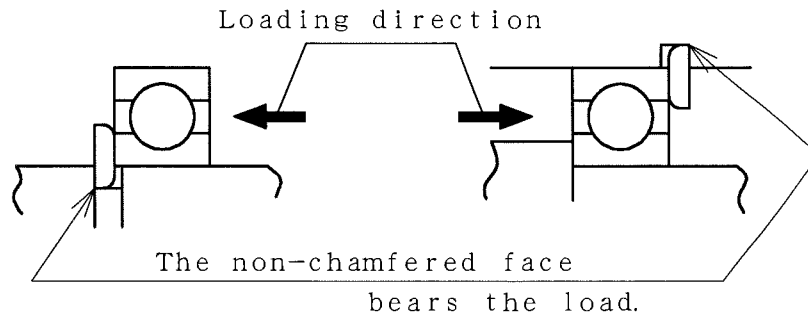

Fig. 12
- 2) Assembling direction for Retaining rings (See Figure 12)